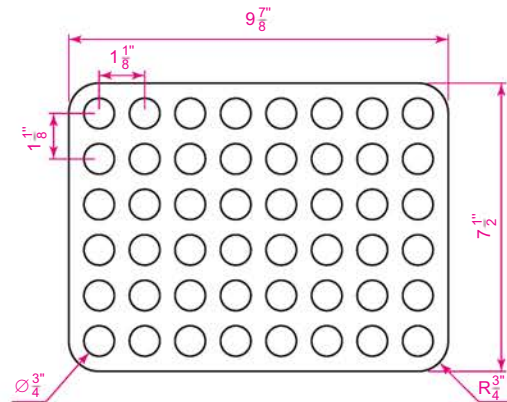

Fig. 6.43 Exercise 2
2. Construct the drawing Fig. 6.43. All parts of the drawing are plines of width = 0.7. The setting in the **Array** dialog is to be **180** in the **Angle of array** field.